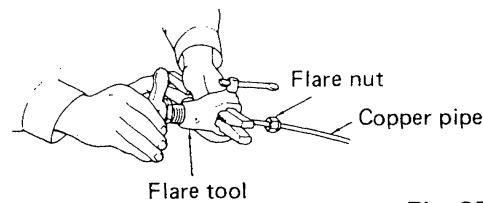

Fig. 25
- d) Make a flare at the end of copper pipe with a flare tool* Fig. 25 (*Use "RIGID" or equivalent.)